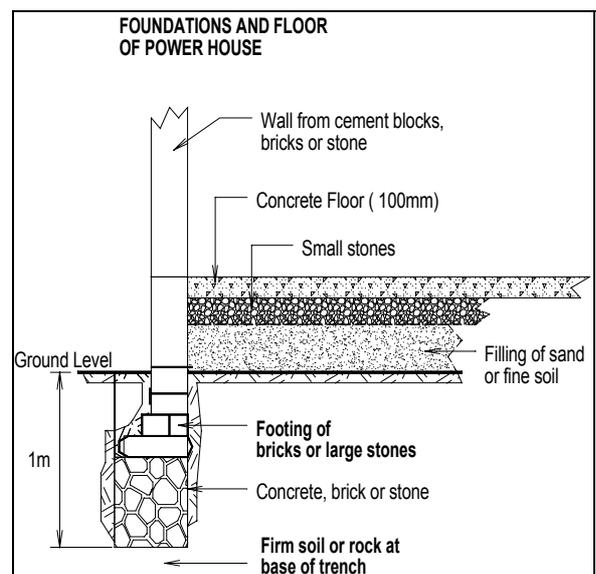

Figure 12-2 Recommended construction of foundations and floor
- A footing is then required on which the walls will stand. This should be twice the width of the walls and stepped up at the top as shown in Figure 12-2. Suitable materials for the footing are concrete, brick and stone depending on what material is used for the walls.